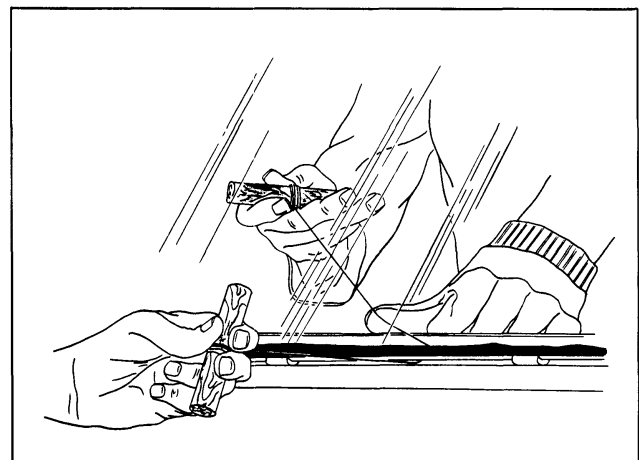

Fig. 14-3 Cutting Caulking Material
2. Secure one end of steel music wire to a wood handle. Insert other end of wire through caulking material at a lower corner of window and secure that end to a second wood handle (Fig. 14-3).